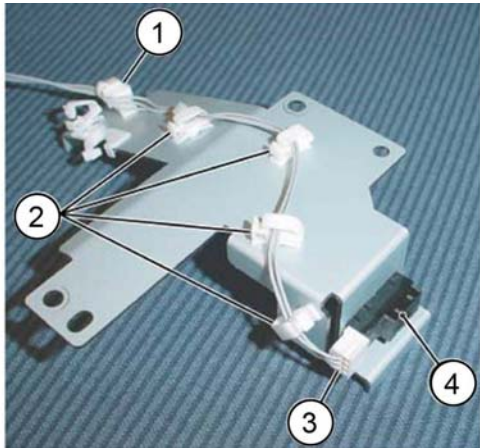

Figure 5 Stack height sensor removal
10. Remove the stack height sensor, Figure 5:
- a. Remove the clamp (1).
- b. Release the harness from the clamps (2).
- c. Disconnect the connector (3).
- d. Remove the stack height sensor (4) from the bracket.